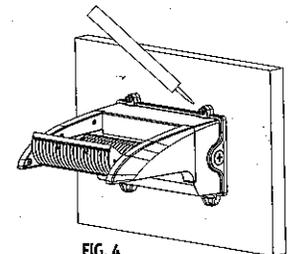

FIG. 4
5. As shown in the figure, loosen the pointed hex socket set screw using a Allen Wrench. Rotate the lighting module to the desired angle, then tighten the set screw to secure it in place. The bottom shell is sprayed with glue and tightly sealed to the wall (Fig.4).